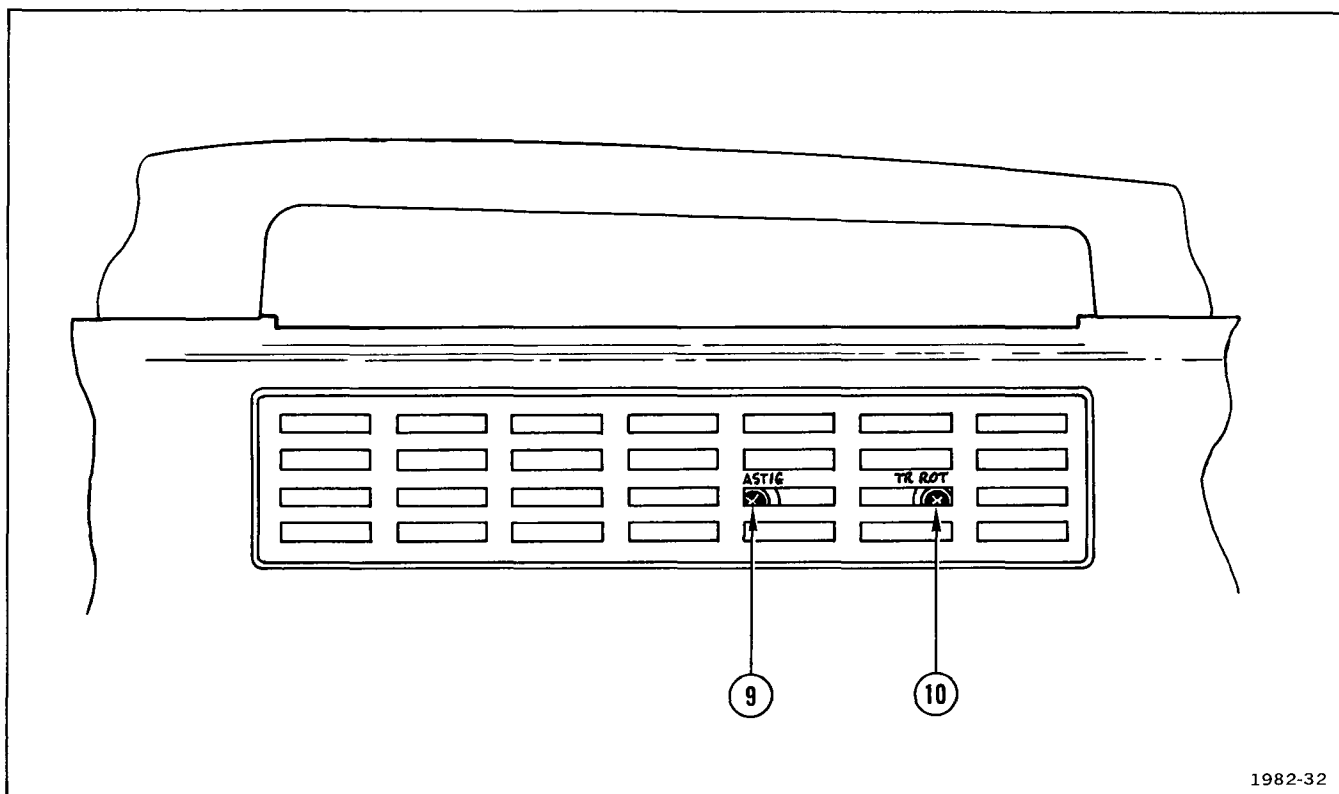

Fig. 2-3. Left side of cabinet.
**Left Side of Cabinet (Fig. 2-3)**